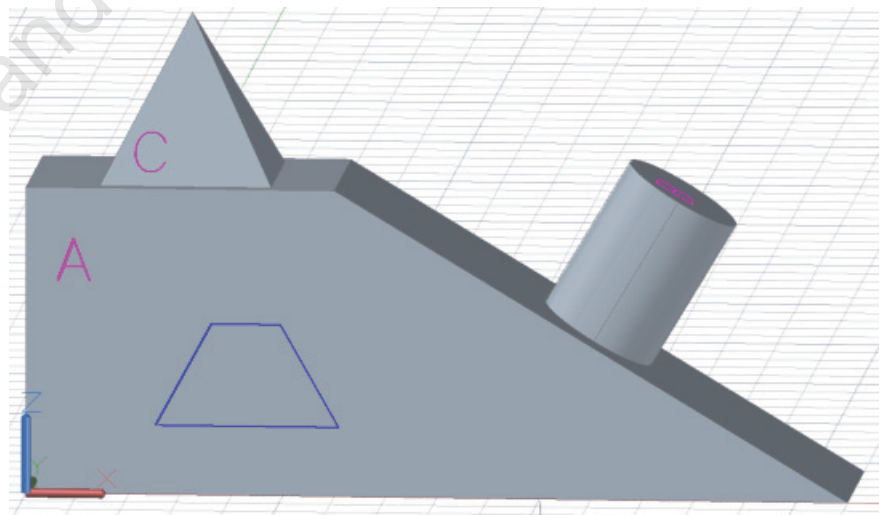

Figure 1–33
5. In the *Home* tab>Draw panel, click  (Line). Hover over Face A until it highlights and add several lines to the surface, similar to those shown in Figure 1–33.
6. Click  (Circle). Hover over Face B until it highlights. Draw a small circle anywhere on Face B, similar to that shown in Figure 1–34.